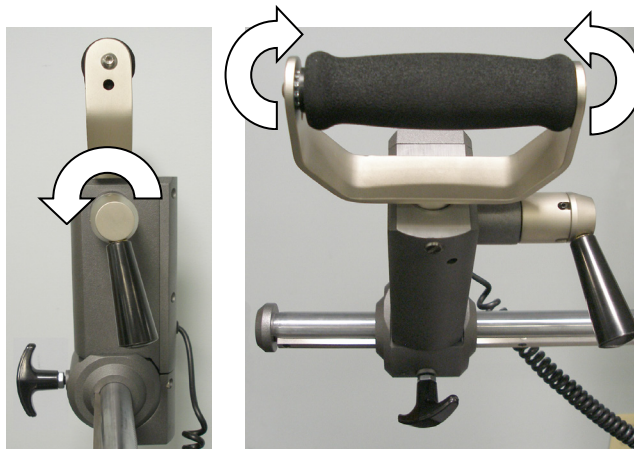

Figure 10-8. Rotating an Attachment in a UTM Side
- Step 1. Locate the top retractable handle, which is on the top right side of the UTM side (Figure 10-8).
- Step 2. Rotate the top retractable handle 1 turn counter-clockwise (Figure 10-8).
- Step 3. Rotate the attachment to the desired position (Figure 10-8).